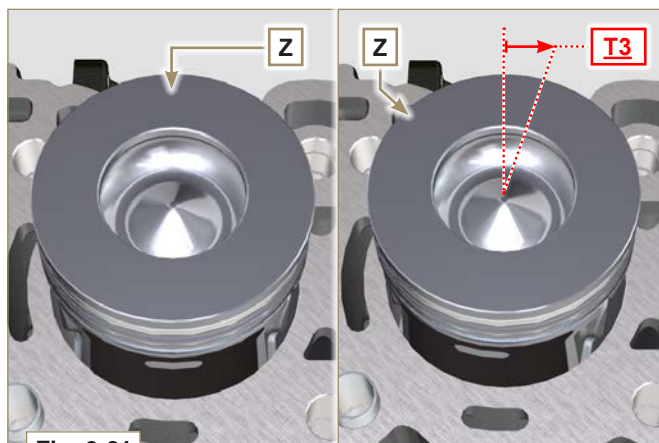

Fig. 9.21
- 5 - Rotate the piston **Z** by **10°** counter-clockwise with respect to its correct assembly position (Fig. 9.21 - height **T3**).